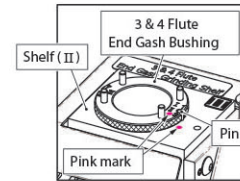

Fig. 7-2
2. End Gash Grinding Shelf (II) (Fig. 7-2) Insert 3 & 4 Flute End Gash Bushing into the Shelf (II), align No.(I · II) of the bushing to the pin on the shelf, then insert it to the end.